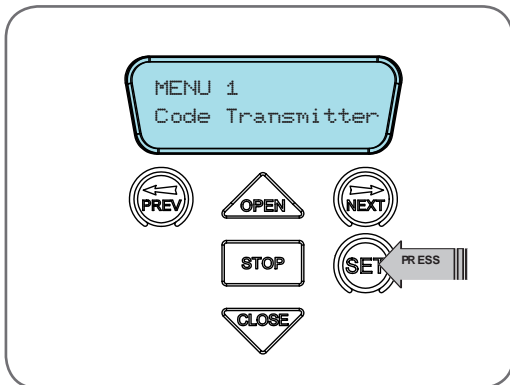

Fig 11.5
- Press SET to enter the code set procedure (Fig. 11.5).